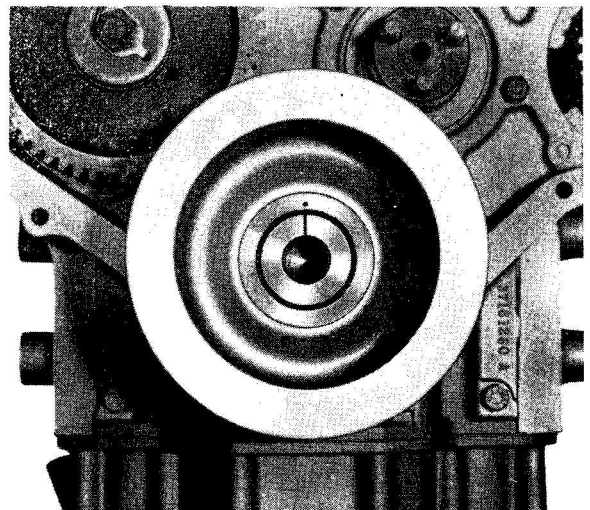

Fig. 2
2. Refit the crankshaft pulley with the centre punch mark on the pulley aligned with the line on the front face of the crankshaft (Fig. 2). Fit the retaining setscrew and washer and tighten to the torque given in 'Data'.